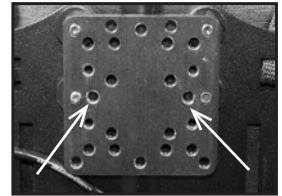

Fig. 89
**Note:** Universal bracket must be oriented to the position shown in Fig. 89.